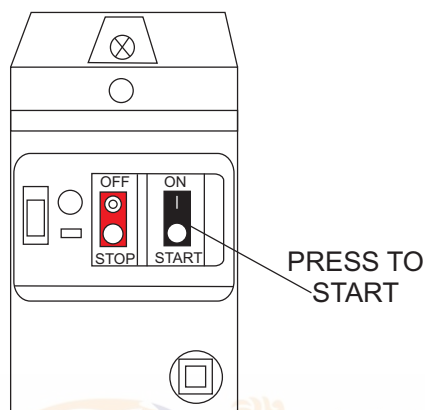

Figure 22. Electric Motor On/OFF Switch (Start)
2. To start the electric motor, press the black ON/START switch (Figure 22).